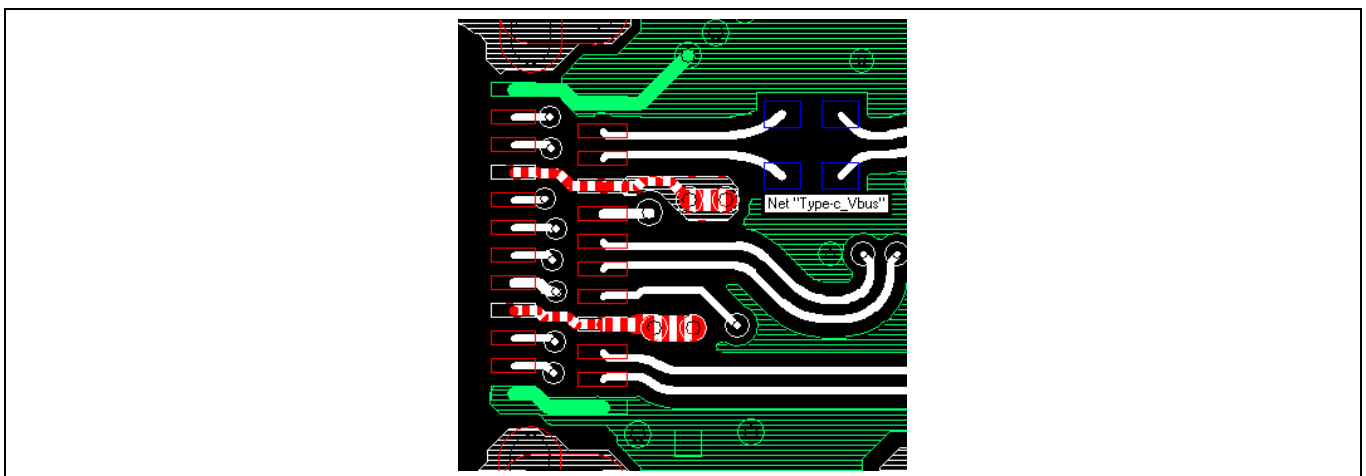

Figure 7-5 All VBUS Pins are Grouped Together
- Group the VBUS pins together (all VBUS pins are brought out to the same plane using vias) as shown in Figure 7-5.